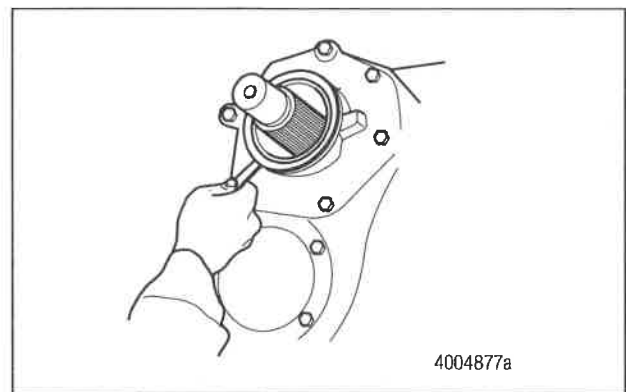

Figure 12
9. Use a feeler gauge to check the seal gap at all three axle positions. The seal is correctly installed if the gap is less than 0.005-inch (0.127 mm) around the circumference of the seal flange. Figure 12.
13. Use a feeler gauge to check the seal gap at the transfer case input position. The seal is correctly installed if the gap is less than 0.005-inch (0.127 mm) around the circumference of the seal flange. Figure 12.